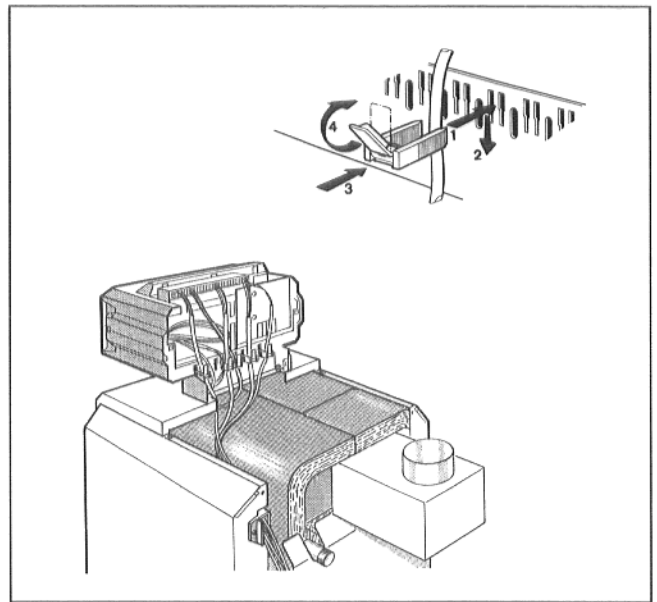

Fig. 7
- Secure the leads to the back of the Ecomatic using the cable clips provided. Slide the clip into place, push downward to fasten to the control, and rotated the lever upward to secure wire in place (Fig. 7).